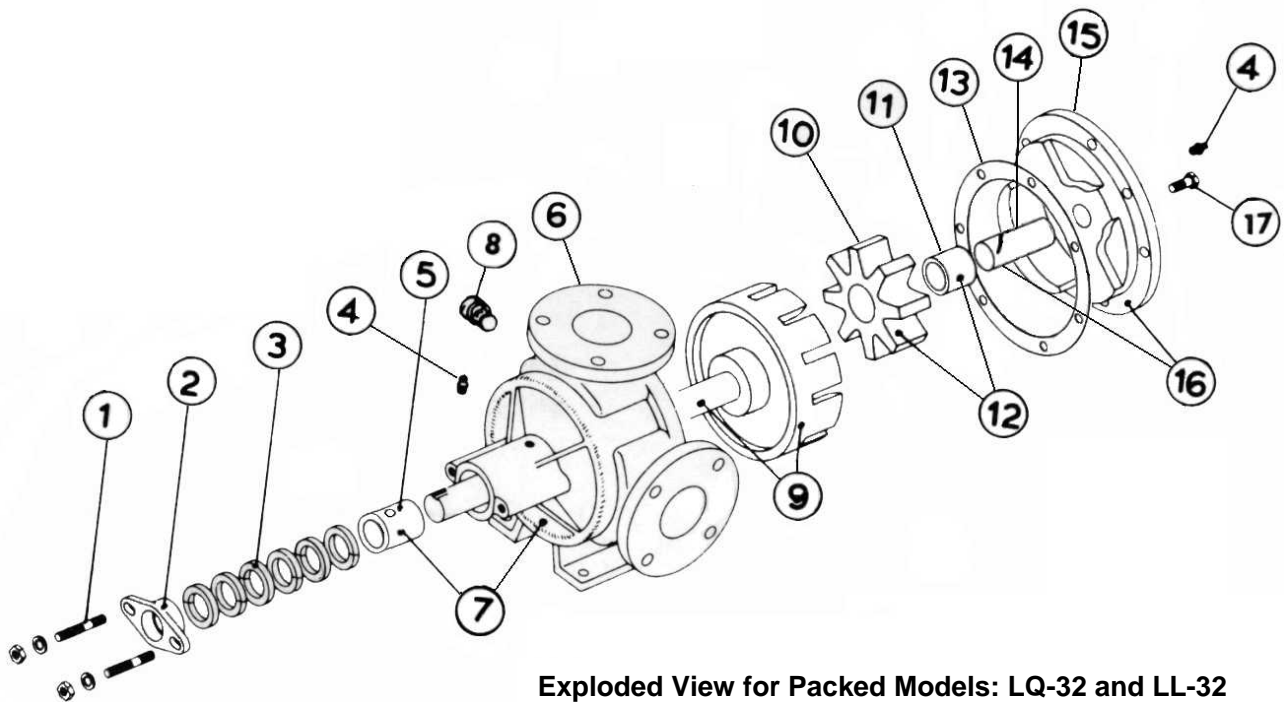

Figure 7, Casing, rotor & shaft ass'y
4. Coat the shaft of the rotor and shaft assembly with non-detergent SAE 30 weight oil. Start the end of shaft in the casing bushing and slowly push the shaft through bushing. Continue until the rotor and shaft assembly cannot move any further. Figure 7, page 3.